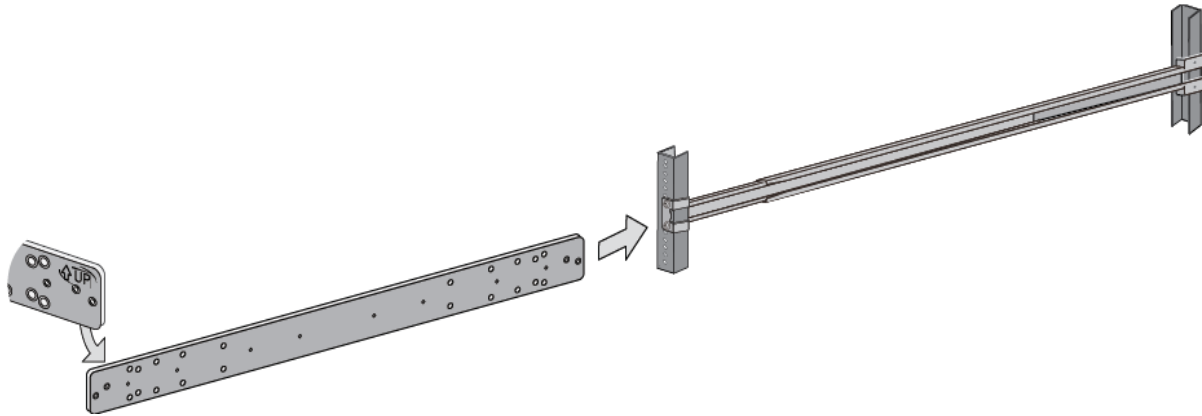

Figure 9. Inserting an Inner Rail into an Outer Rail
1. Slide one of the inner rails into an outer rail. Be sure that the UP arrow on the inner rail is pointing up. Refer to Figure 9 on page 28.